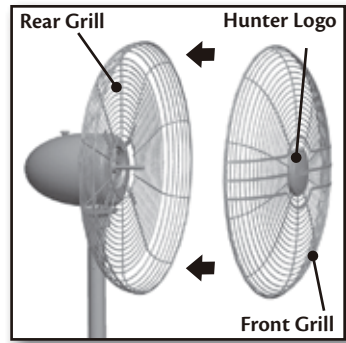

Figure 16
7. Place the front grill against the rear grill so that the Hunter logo faces right side up and push together until the tabs on the grills hold them together. Figure 16.